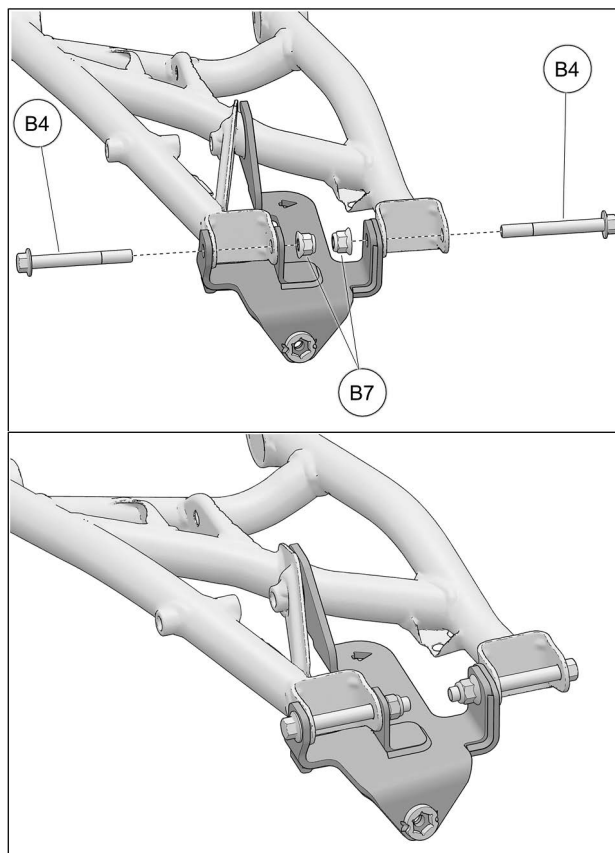

Fig. 7
- Insert the new M12x100mm bolts (B4) in the anchor bracket, through the lower suspension arm and wheel hub. Secure assembly using the new M12 nuts (B7) provided. Tighten bolts to 125 Nm [92 lb•ft]. See Fig. 7